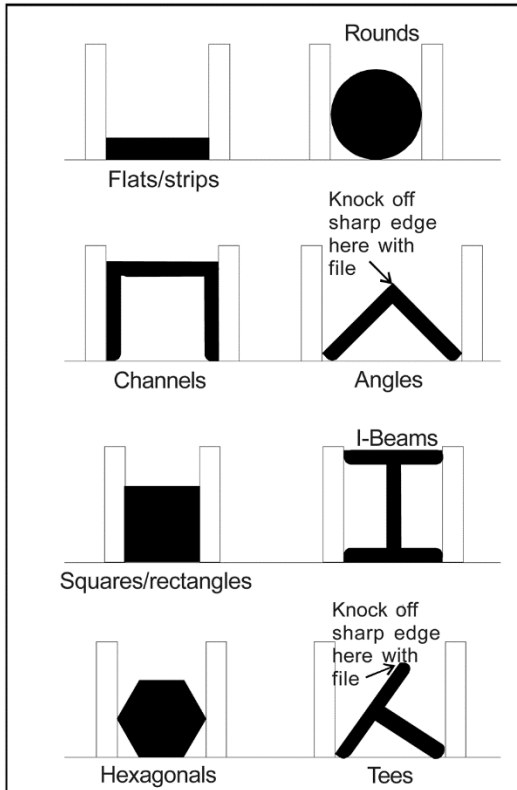

Figure 8-9
1. Place workpiece between vise jaws with required amount to be cut-off extending out past blade. (Figure 8-9 shows recommended positioning of various workpiece shapes within the vise.)